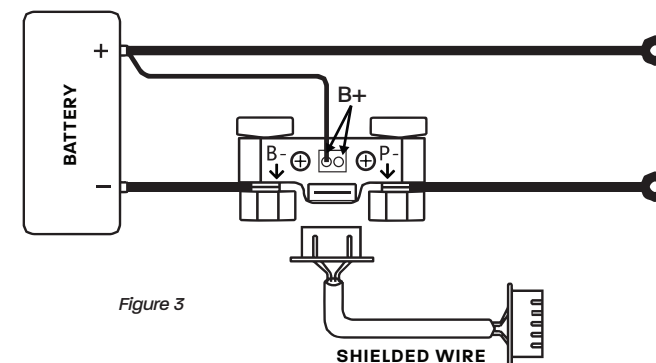

Figure 3
1. First connect the battery monitor to the negative circuit of your battery. Run a cable from the terminal marked "B-" on the shunt to the negative terminal on the battery, and from the terminal marked "P-" on the shunt to the negative terminal on your charge or output device (refer Figure 3).